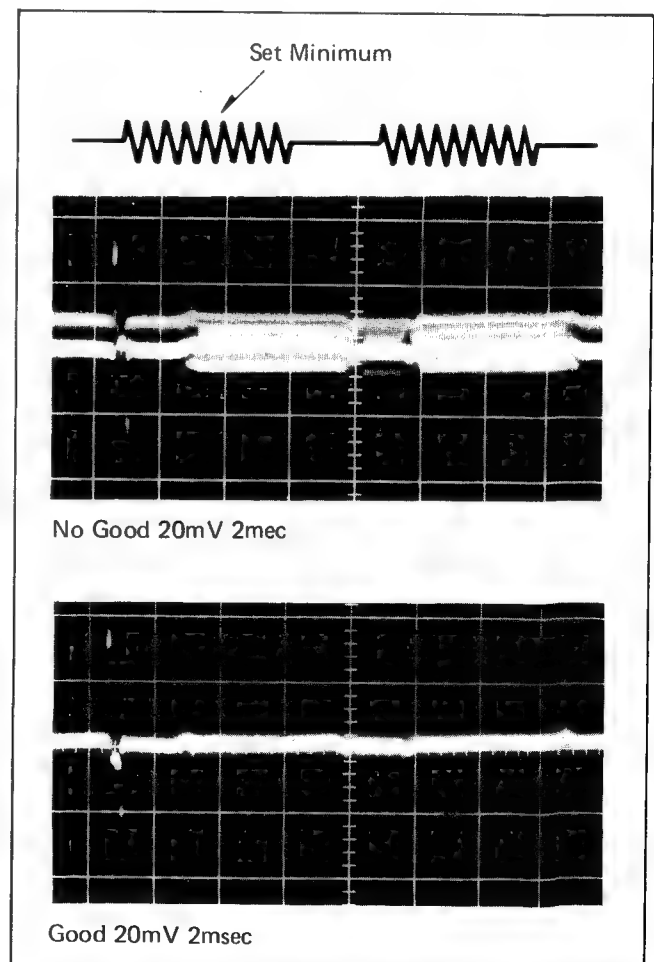

Fig. 12 Vertical Edge Correction Signal at TP311
- Adjust the vertical edge balance control VR334 so that the vertical edge correction signal is minimized, as shown Fig. 12.